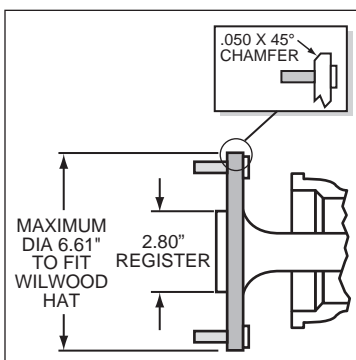

Figure 3. Axle Flange Maximum Dimension
- Axle center register diameter is 2.80", Figure 3. This kit uses Wilwood's removable center register adapters. Rotors can either be centered on the axle register, i.e. *register-centric* or centered on the wheel studs, i.e. *stud-centric*. Due to variations in wheel stud final diameters, *register-centric* centering can be a more accurate method of centering the rotor to the axle. Wilwood offers various diameter adapters for purchase in addition to the ones supplied in this kit, see Table 1.
- Maximum axle flange diameter must be no larger than 6.61" w/.050" x 45° chamfer (Figure 3).